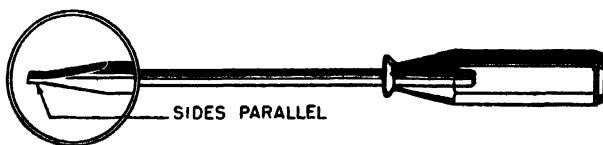

Fig. 4-5. Correctly ground tip of a screw driver.
*Grinding the Blade.* The tip of the screw-driver blade should be ground so that the sides of the blade are practically parallel, and the blade sides should gradually taper out to the shank body. If you should ever damage the end of the blade, make it usable again by grinding it against an emery wheel. First, grind the tip straight and at right angles to the shank. After the tip is ground, square-dress off from each face, a little at a time. Keep the faces parallel for a short distance or have them taper in a slight amount. Never grind the faces so that they taper to a sharp edge. See Fig. 4-5 for a correctly ground tip.